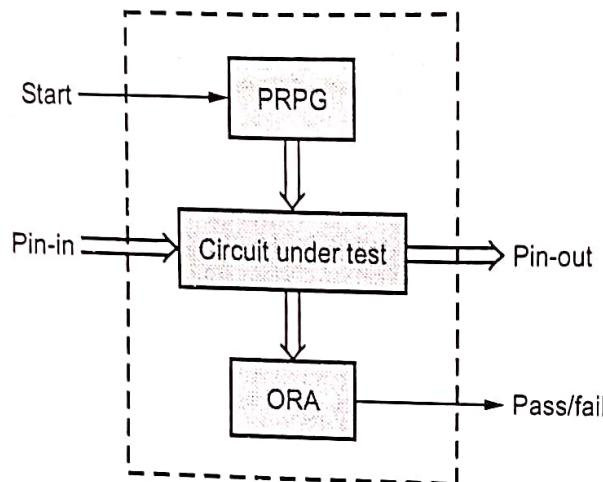

Fig. 5.2.4 BIST process
- Fig. 5.2.4 shows general procedure for BIST.